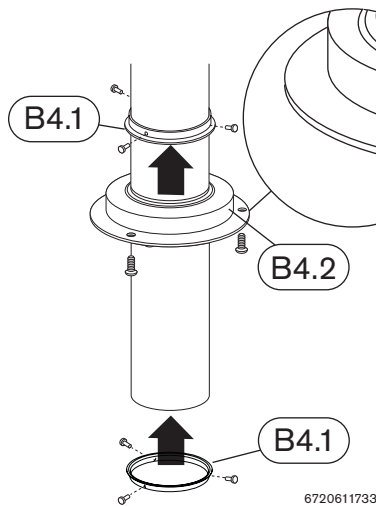

Fig. 11
- ▶ Partially engage 3 screws into the retaining ring. See Fig. 11